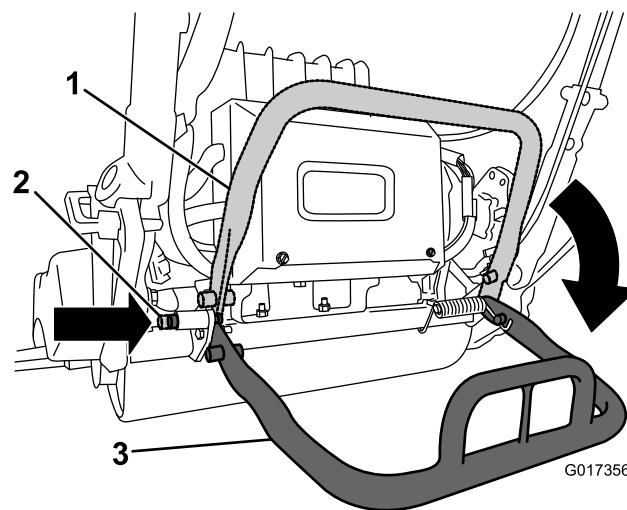

Figure 28
- To use the kickstand when removing the reel, lower it and push in the locking pin to lock the kickstand in the service position (Figure 28).